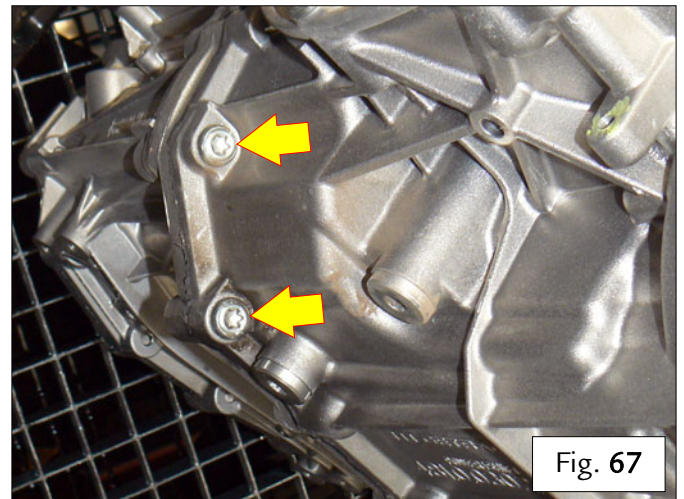

Fig. 67
- Hand-tighten the new screws indicated fastening the gearbox to the interface plate – Fig. 67.